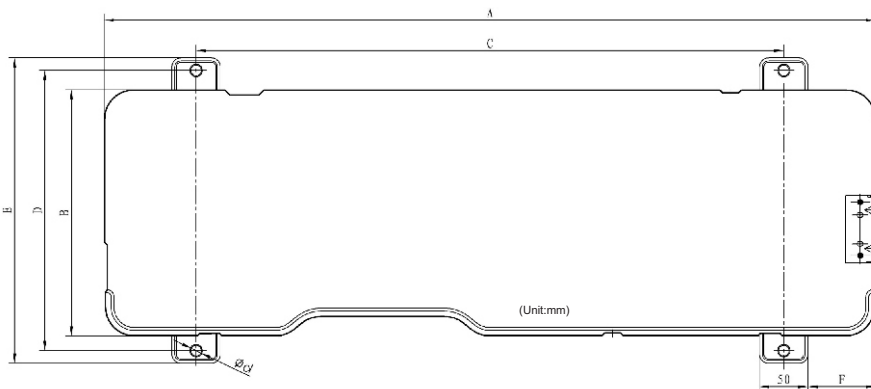

Fig.4.1 The position of anchor bolts
- (1) Use the washer provided in the accessory to fasten the machine at the foundation bolts.
- (2) When fasten the outdoor unit with the foundation bolts, the fasten holes position as the Fig4.1.